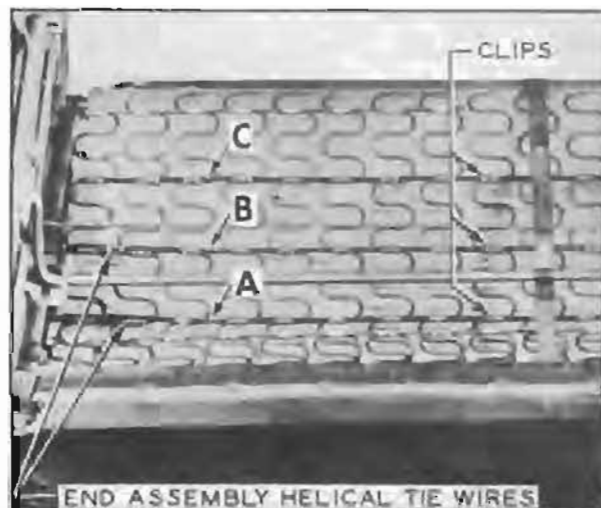

Figure 13-41—Installation of Tie Wires in Front Seat Cushion
Front seat cushions and seat backs are built upon separate zig-zag type spring assemblies which are attached to the metal frame assemblies. The zig-zag spring form is shown in figure 13-41.
2. Referring to figure 13-41, position and clip tie wires "A" and "B" to the zig-zag spring units so that they attach to the same line of loops to which "end assembly helical tie wires" are clipped. Position and clip helical tie wire "C" to the zig-zag springs as shown.